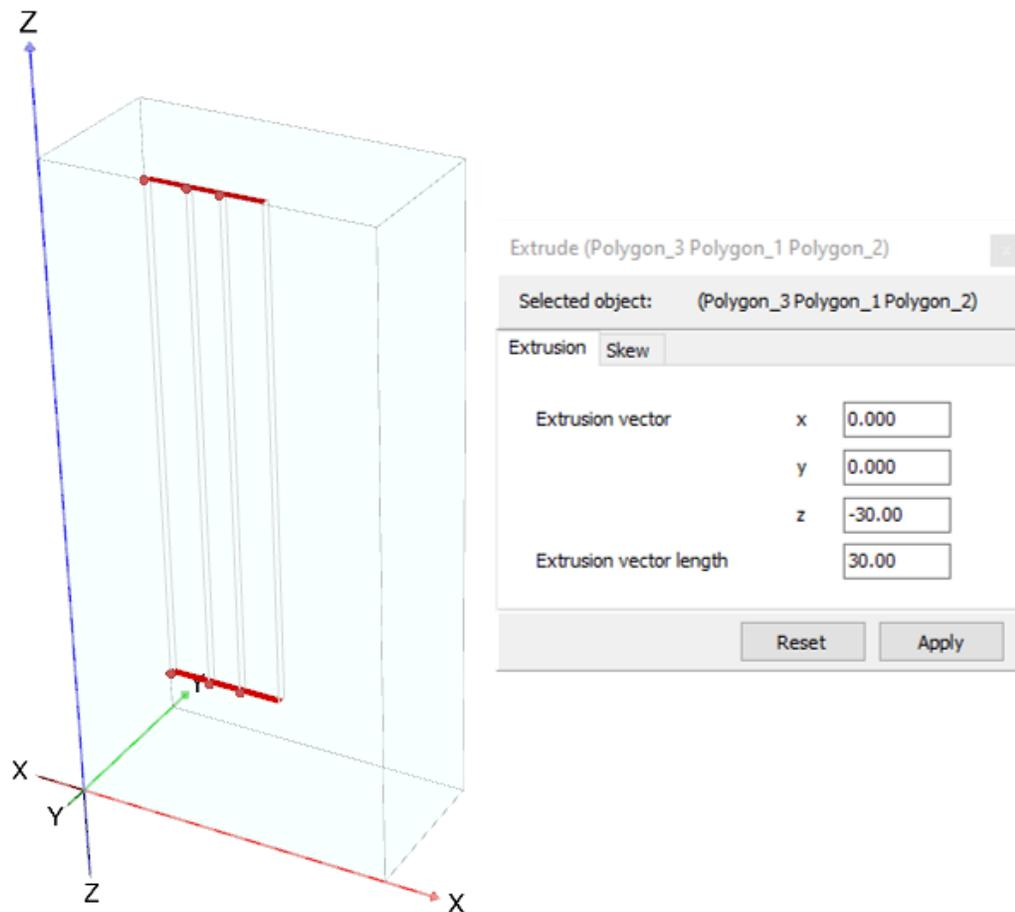

Figure 52: Extruded surfaces
3.  Click the **Extrude object** button in the side toolbar. Set the extrusion vector to (0 0 -30) and the extrusion vector length to 30 as displayed in Figure 52 (on page 76).